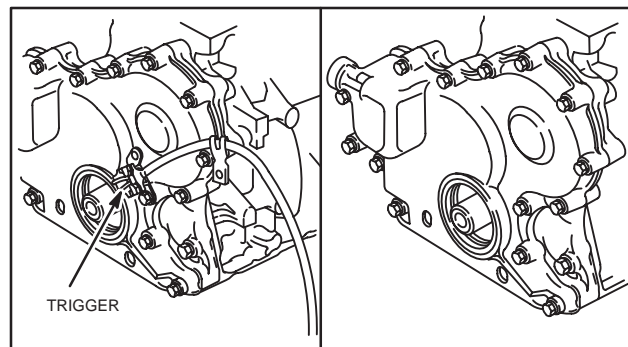

Fig. 4 – Removing Timing Gear Cover
4. Remove trigger and wire. Remove timing gear cover, Fig. 4.